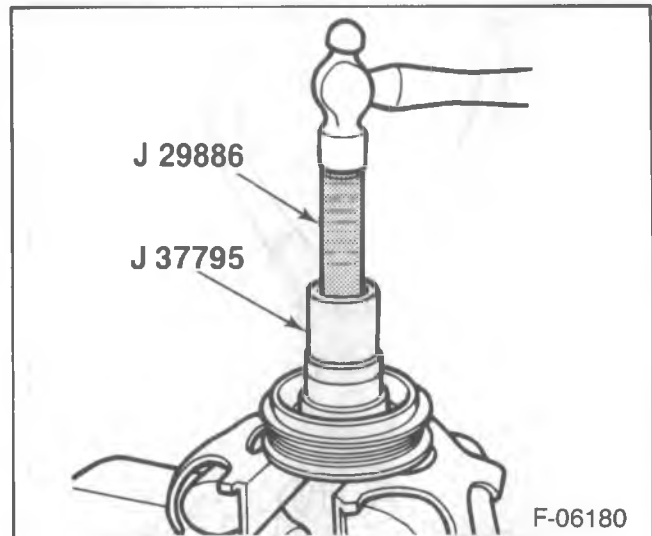

Figure 14—Installing the Rotor Bearing
3. Bearing to the rotor with J 37795 and J 29886 (figure 14).